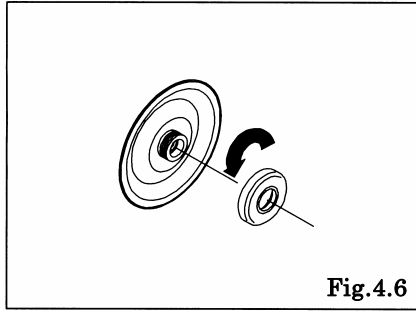

Fig.4.6
- Hold the diaphragm and turn the bushing in the direction of the arrow to separate it from the diaphragm. [Fig.4.6]